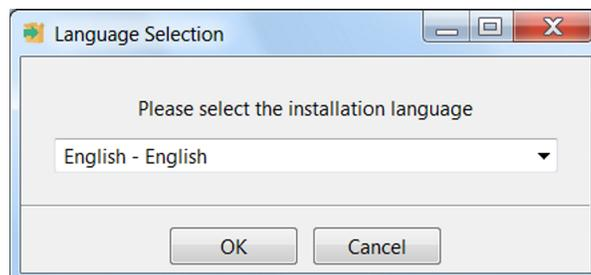

Figure 13. Language Selection
- Step 2. Follow the prompts to select another language from the default of English (see Figure 13).